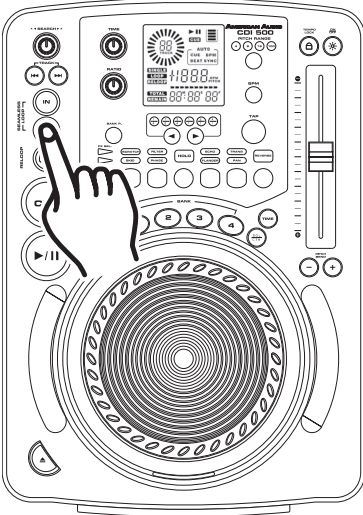

Figure 20
- 3) Press the *OUT BUTTON* (24) to set the ending point for your SEAMLESS LOOP (Figure 20). The *IN BUTTON* (26) and *OUT BUTTON* (24) LEDs will immediately begin to flash rapidly, indicating the SEAMLESS LOOP mode has been activated.